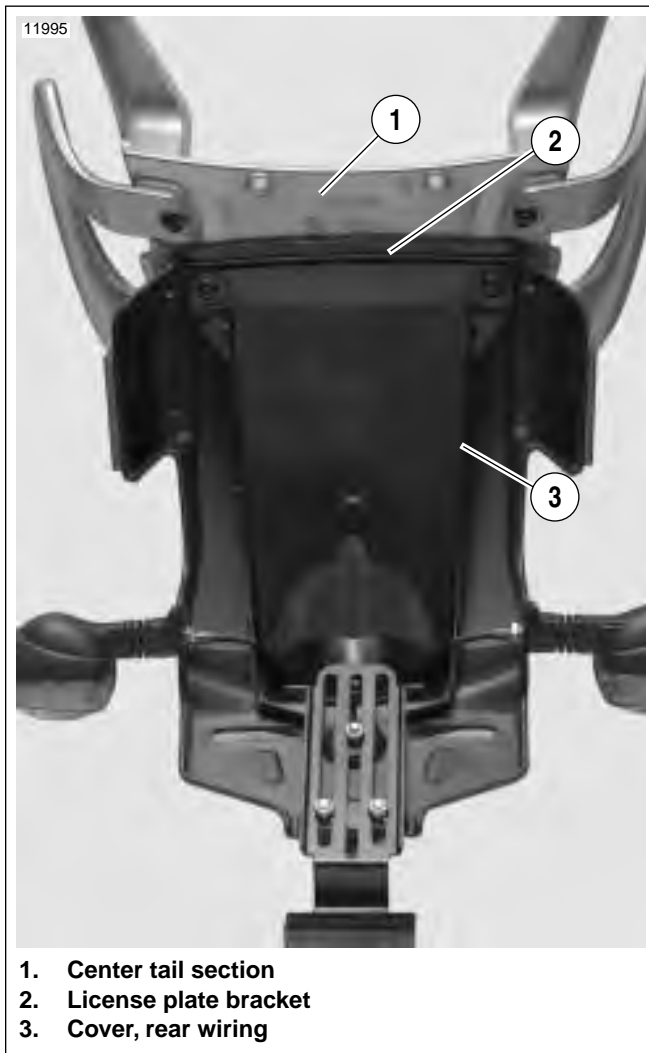

Figure 7-51. License Plate Lamp Mounting
2. See Figure 7-51. Remove the cover for the rear wiring (3).
4. Pull the lamp assembly away from license plate bracket (1) pulling the harness out of the license plate bracket.